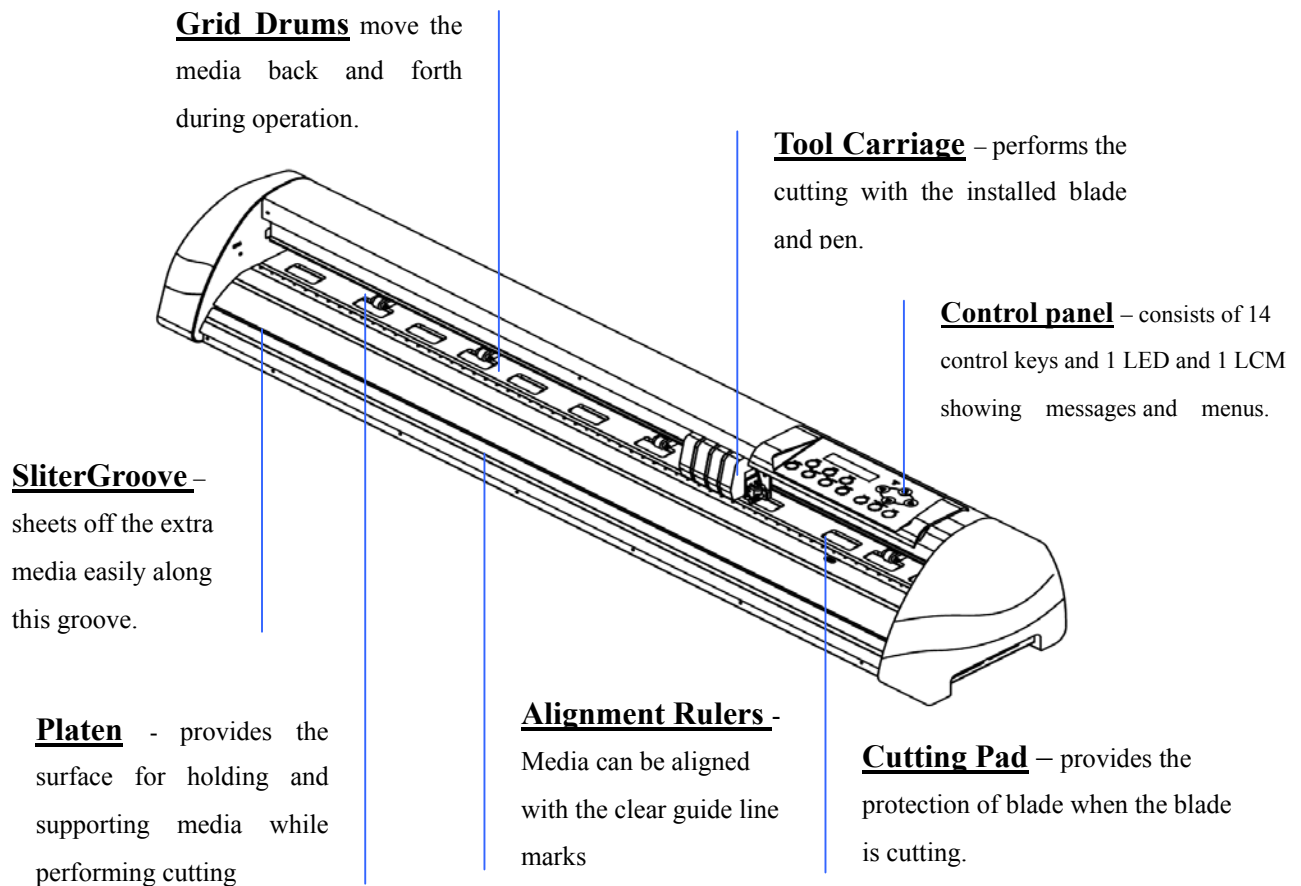

Figure 1-1
1.2 Front View of Jaguar (Figure 1-1)